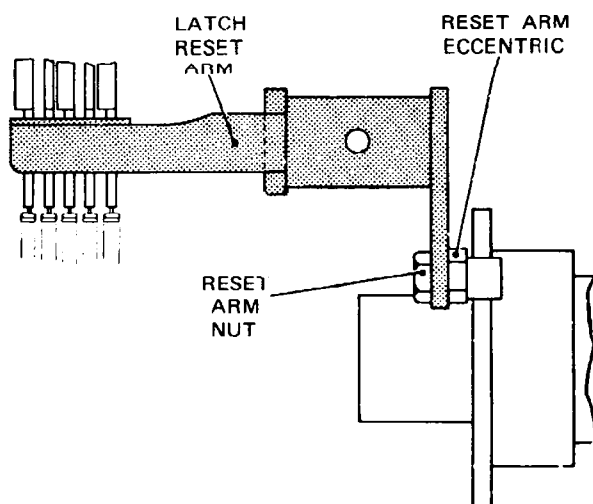

Fig. 4.79 STORAGE LATCH RESET MECHANISM
- 87.3 To adjust, slacken the nut securing the latch reset arm eccentric, Fig. 4.79, and turn the eccentric to satisfy both conditions. Tighten the nut.